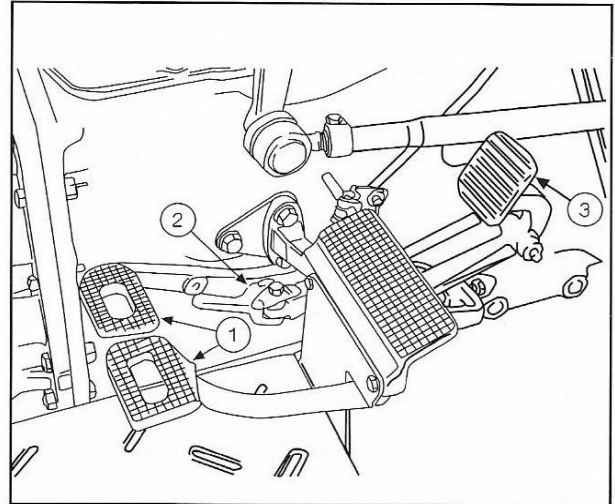

Fig. 39
The tractor can be fitted with one of two types pedals (Fig. 39) Operation for both of these types of pedal is identical.
1. Release the brake pedal latch (1, Fig. 39).
2. Apply the brake (2) on the side to which the turn is to be made and turn the steering wheel.